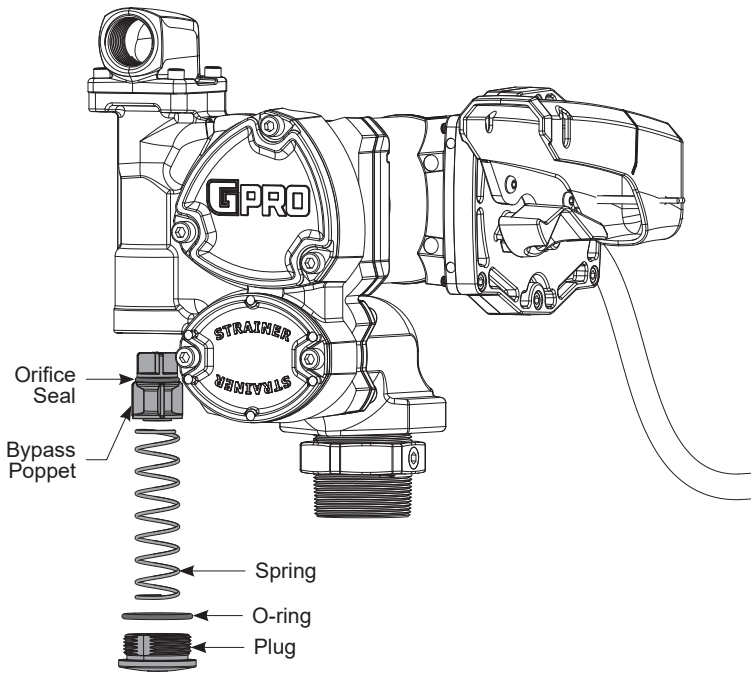

Figure 3
2. With a 10mm Hex wrench remove the bypass plug from the pump, and remove the bypass poppet spring, O-ring, bypass poppet and orifice seal (see Figure 3).